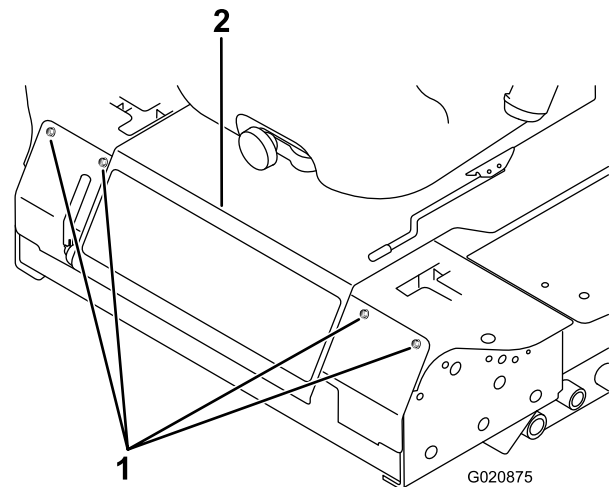

Figure 45
2. Remove the bolts securing the front panel and remove the panel (Figure 45).